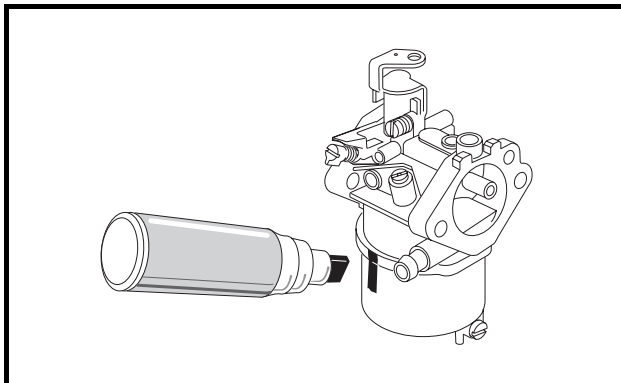

Figure 16-3 Mark Carburetor and Bowl for Alignment
4. Mark the body of the carburetor and the carburetor fuel bowl with an indelible ink marker so that, after removal, the bowl can be installed again in the same position (**Figure 16-3, Page 16-4**).